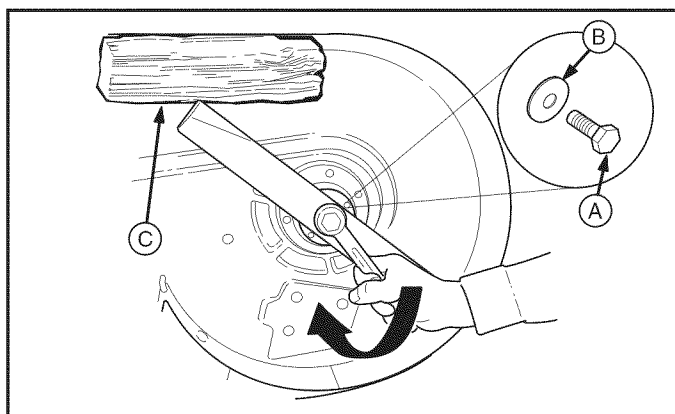

Figure 25
3. Remove capscrew (A, Figure 25), spring washer (B) and blade.
6. Reinstall the blade (Figure 25) with the airlifts pointing up toward the mower deck as shown.
7. Reinstall the spring washer (B) and capscrew (A). Use a wooden block (C) to prevent blade rotation while tightening the capscrew (A) to 50-60 ft-lbs (68-81 Nm).